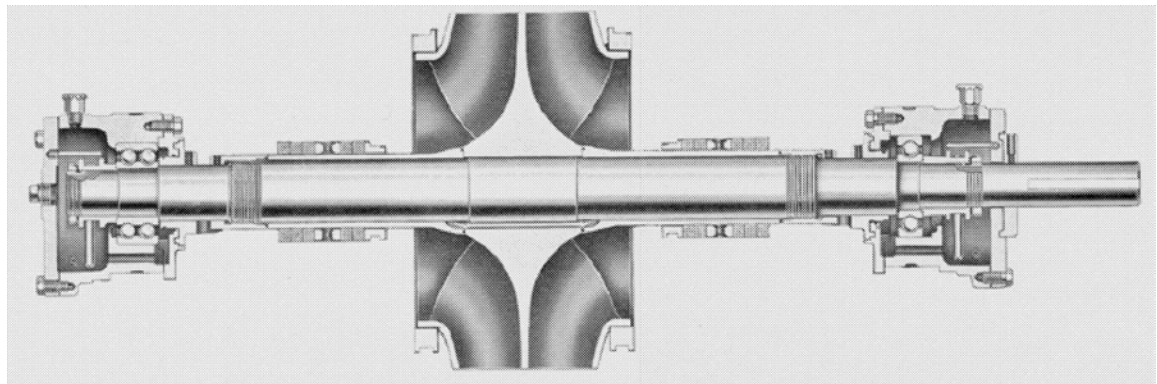

Figure 30: Rotating element
3. Place sling in position (see Figure 30: Rotating element on page 36) and take weight off element. Make sure all stationary parts of rotating element are removed. It is desirable to rotate casing wearing rings, stuffing box bushings and bearing housings 180 degrees to disengage tongue and groove locks.